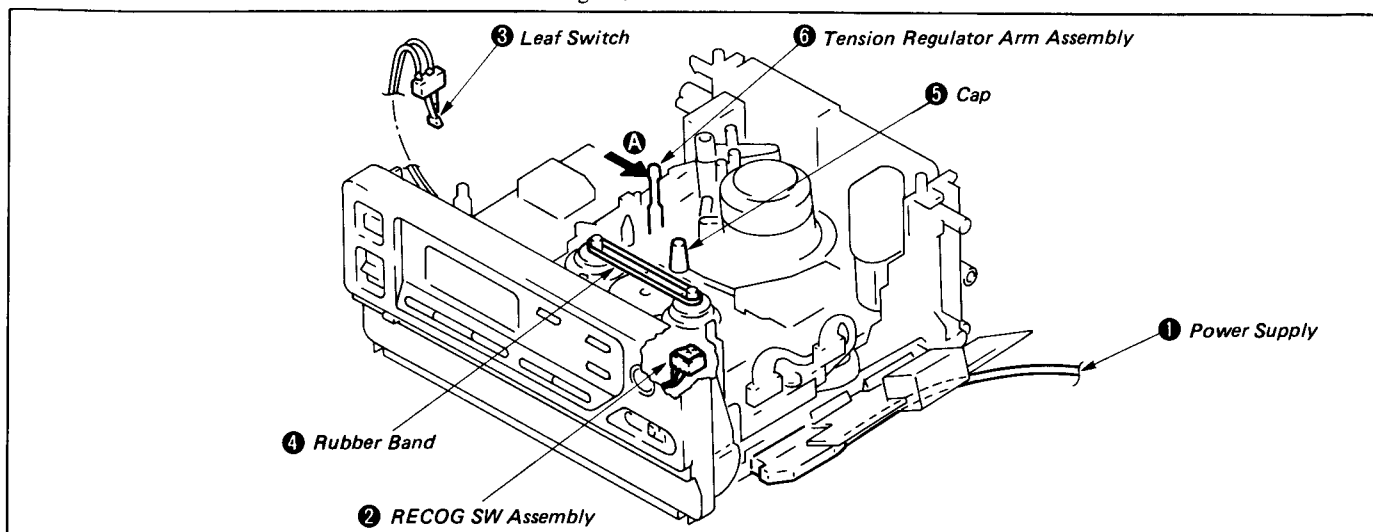

Fig. 1-3
- 1) Connect the power supply ① and turn on power.
- 2) Place a tape on the pin of the RECOG SW assembly ② .
- 3) Turn on the leaf switch (S901) ③ . (See Fig. 1-3.)
- 5) Press the STOP button to stop. (See Fig. 1-3.)
- 2) Place a rubber band ④ between the S and T reels.
- 3) Cover a cap ⑤ on the LED assembly.
- 4) Press the RECORD button. Push the tension regulator arm assembly ⑥ toward the arrow A when the T reel starts rotating. (The tension regulator band is released, and the S reel rotates.)